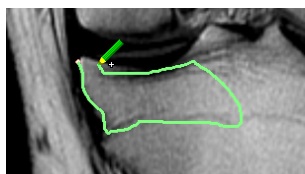

Figure 235 – Drawing a contour with the Freehand tool
2. Press and hold down the left mouse button to draw the contour (see Figure 235).